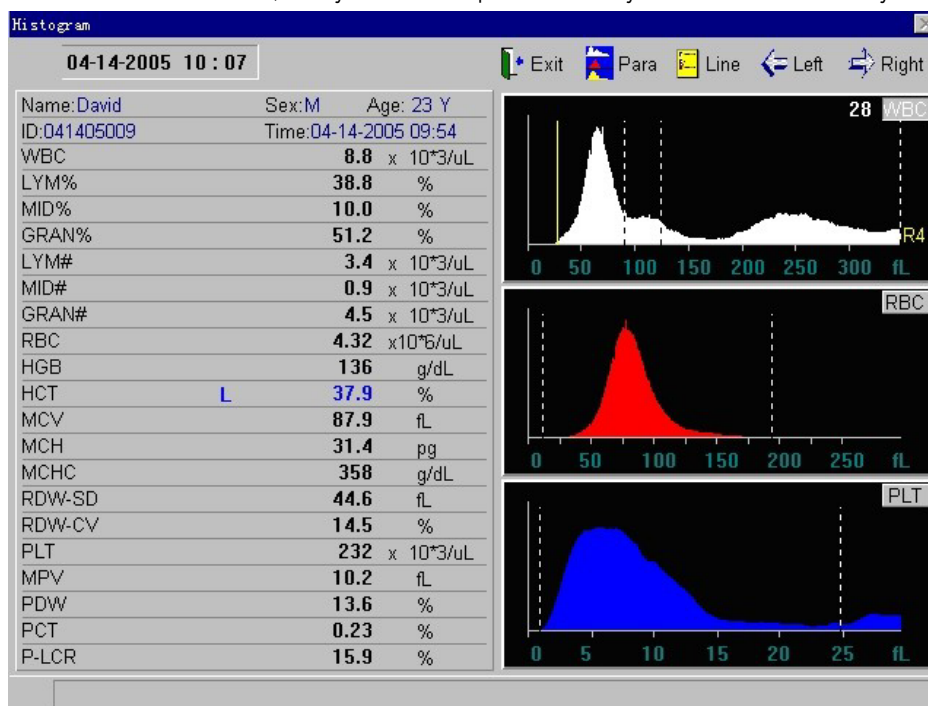

Figure 3-2
- a) In the blood cell analyzer window empty area, press the right key of the mouse, pops up the menu, select “Histogram” in menu, the instrument accesses histogram adjust window, as shown in figure 3-2. Press “Para” button to adjust the histogram.